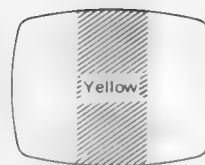

Figure 2
- (1) Produce a yellow raster by short-circuiting the base and emitter of Q653 (B-DRIVE-1) with a short lead.
- (2) With the deflection yoke positioned fully forward, adjust the purity magnet so that the yellow bar is at the center of the screen with normal vertical centering.
- (3) Slide the deflection yoke slowly backwards to produce a uniform yellow raster (Figure 2).
- (4) Produce the primary color rasters — red, green and blue — and make sure no contamination is observed for each color.